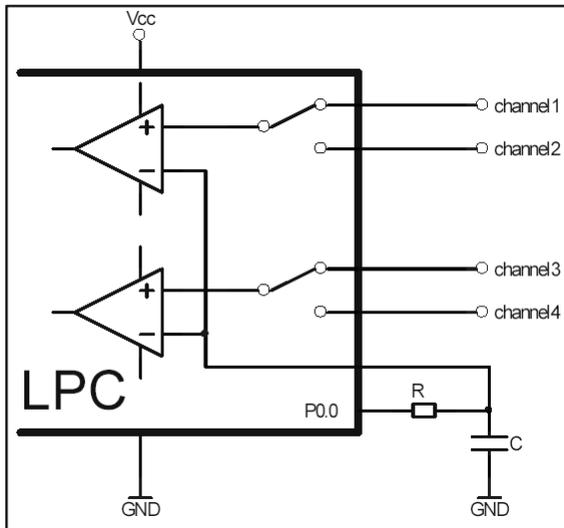

Figure 3.
Figure 3 shows the schematic of a four-channel ADC with an LPC. The only external components needed are a capacitor (C) and a resistor (R), which determines the charging current. A stabilized supply voltage is mandatory to make the currents independent of power supply variations.